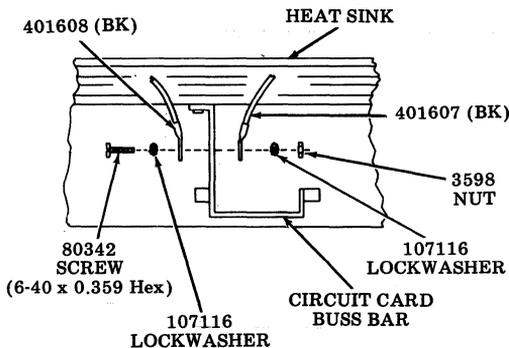

Fig. 24
- (c) If wiring 410600 circuit card (early design), assemble the 401607 and 401608 black wires to the circuit card buss bar as shown in Fig. 24.